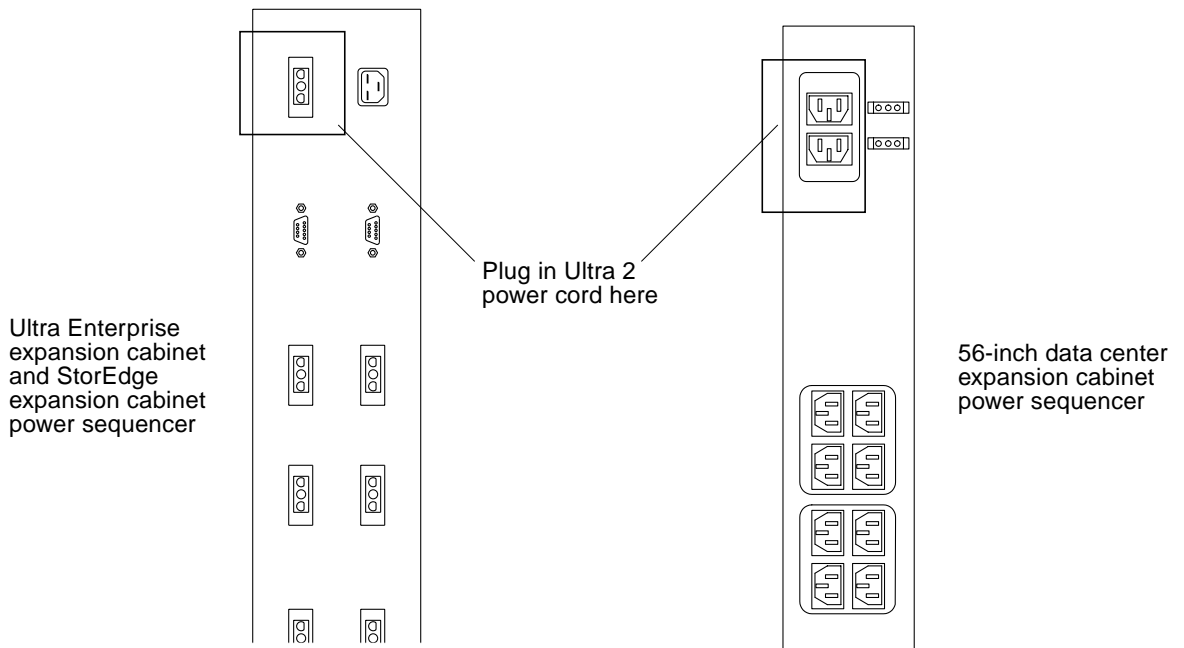

FIGURE 1-5 AC Power Sequencers—Ultra 2 Power Connector
You need to order one of the following power cords depending on the type of power sequencer in the expansion cabinet (FIGURE 1-5):
3. Plug the power cord from the Ultra 2 host into the top power connector of either power sequencer (FIGURE 1-5).